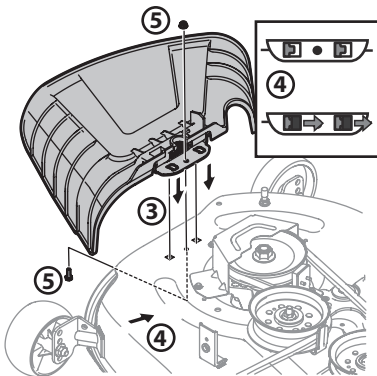

Figure 10
3. Place the chute deflector on the deck, be sure to insert the tabs on the chute deflector into the holes on the deck. See Figure 10.
4. Slide the chute deflector toward the rear of the tractor until the bolt hole in the chute deflector aligns with the hole in the deck. See Figure 10.